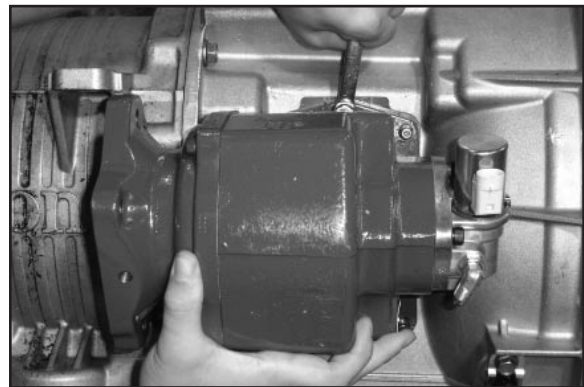

Fig. 6
6. Position the P.T.O. and secure it with the top capscrew (**Fig. 6**).